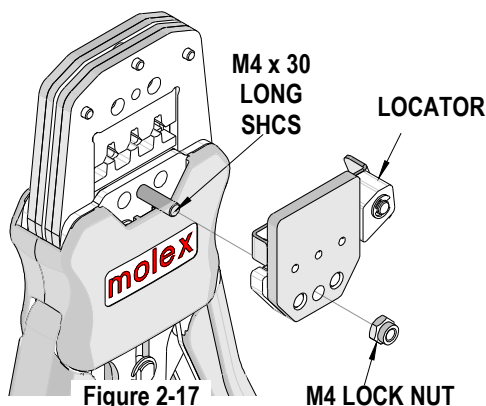

Figure 2-17
2. Loosen the (2) pegs on the locator assembly from the mating holes on the back side of the Power Crimp Head and pull out. See Figure 2-17.